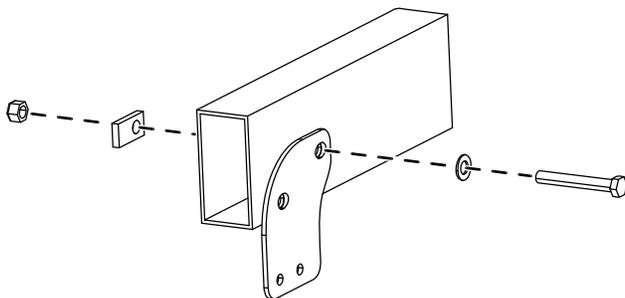

Figure 6
3. Install the side straps to the vehicle frame, using 2 bolts (5/8 x 4-1/2 inches), 2 flat washers (5/8 inch), 2 shims (3/8 inch), and 2 curved top nuts (5/8 inch) in the front hole of the strap as shown in Figure 6. Secure the rear of the strap using existing hardware.